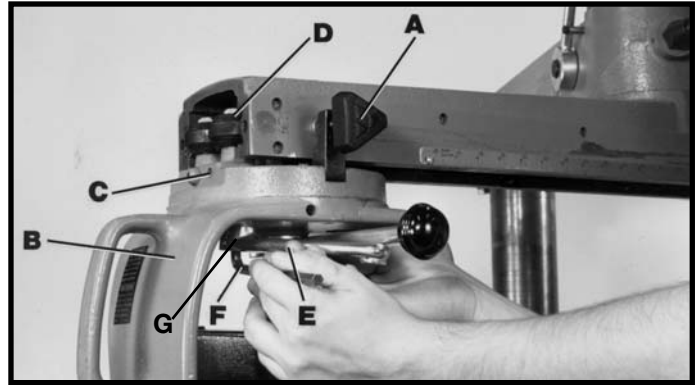

Fig. 33
2. Remove end plate from track-arm, loosen clamp knob (A) Fig. 33, and move cuttinghead (B) to the front of the track-arm, as shown; then tighten clamp knob (A).
3. Loosen two set screws, one of which is shown at (C) Fig. 33, that lock both front and rear bearing eccentric shafts. The other screw is at the rear of the carriage.
4. Rotate yoke (B) Fig. 33, until hole in yoke is under either eccentric shaft (D).
5. Place roller head wrench (E) over hex nut (G) that locks shaft (D), as shown in Fig. 33, and loosen hex nut. Repeat this procedure at rear bearing.
6. Insert hex wrench (F) into eccentric shaft, as shown in Fig. 33, and turn until all "play" is removed between bearing (D) and track rods. Repeat this procedure for the rear bearing.
7. Tighten hex nuts with wrench (E) and lock set screws (C) with wrench, at both bearings, Fig. 33. Replace end cap on track-arm.